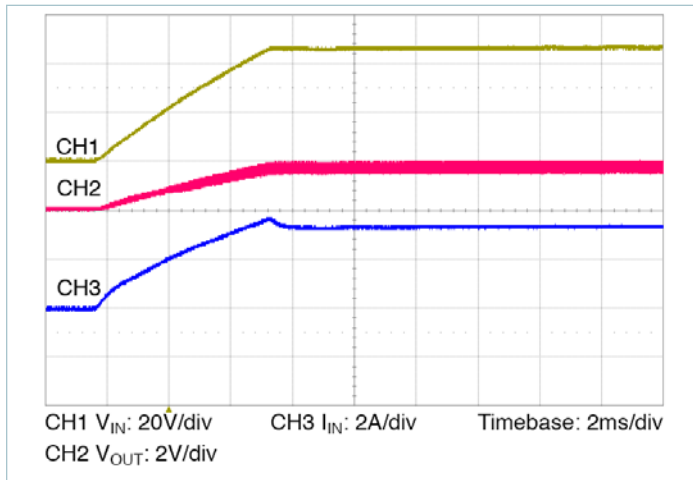

Figure 13 — Start up from application of V_{IN} ; VC pre-applied $C_{OUT} = 27000\mu\text{F}$
- **Normal operation (VC applied prior to V_{IN}):** In this case the controller is active prior to ramping the input. When the input voltage is applied, the VTM module output voltage will track the input (See Figure 13). The inrush current is determined by the input voltage rate of rise and output capacitance. If the VC voltage is removed prior to the input reaching 26V, the VTM may shut down.